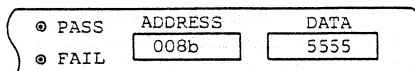

Fig. 6
- (10) Press the  key. The panel gives the indication shown in Figure 6.